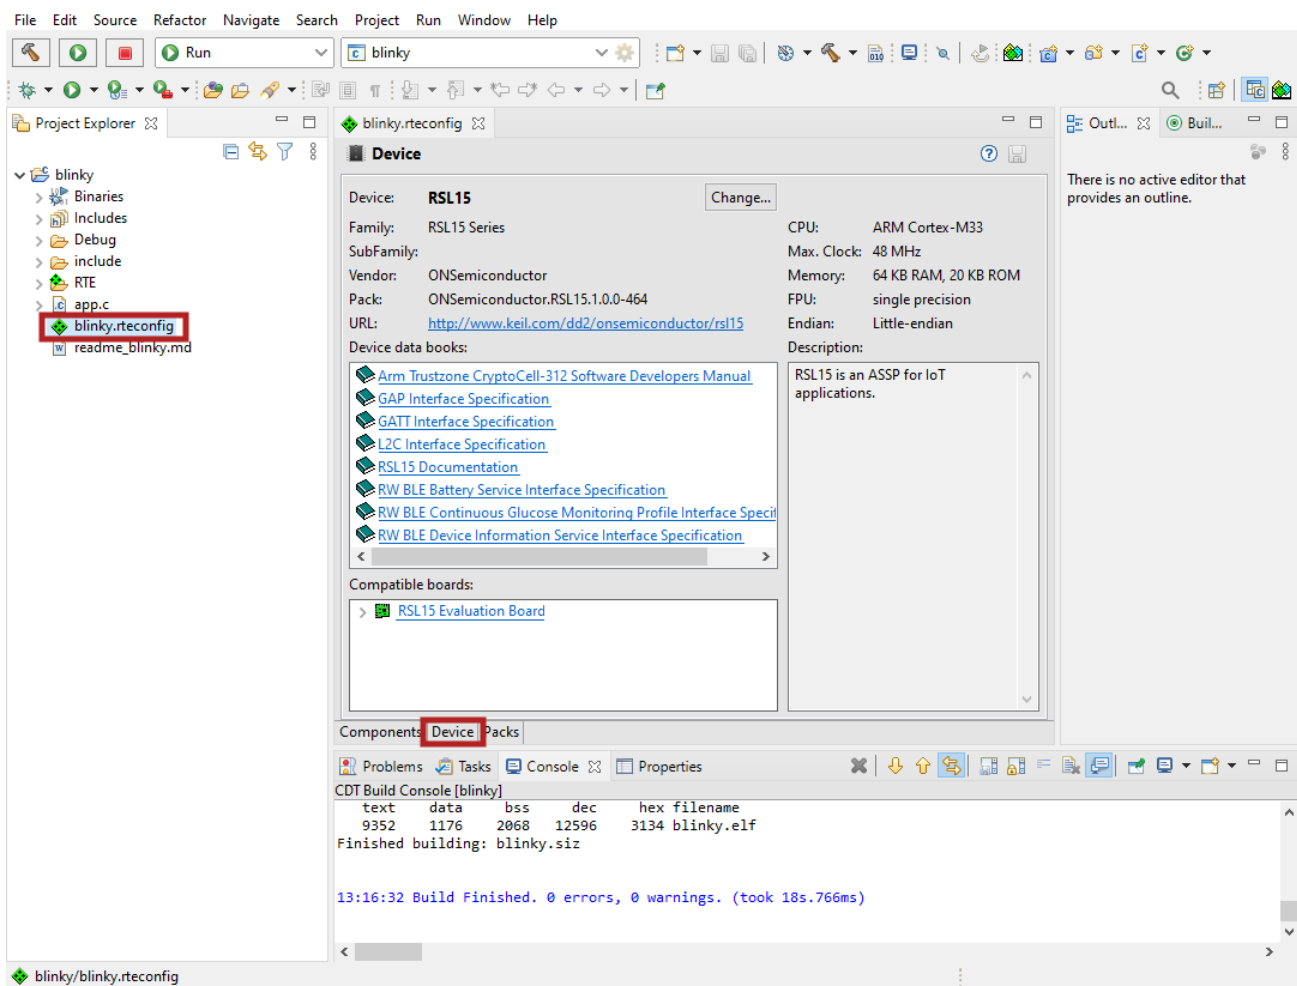

Figure 51. Accessing Documentation with the Device Tab
2. Select the **Device** tab (see the figure "Accessing Documentation with the Device Tab" (Figure 51)).